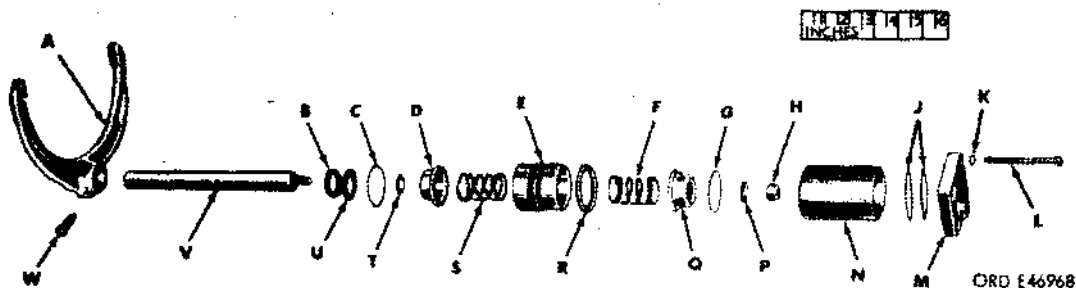

Figure 209. Shift air cylinder assembly - exploded view
- (2) Shift air cylinder assembly. Complete disassembly of the shift air cylinder assembly (fig. 209) will not be necessary unless it is known to be defective. If rebuild is indicated, proceed as in (a) and (b) below.